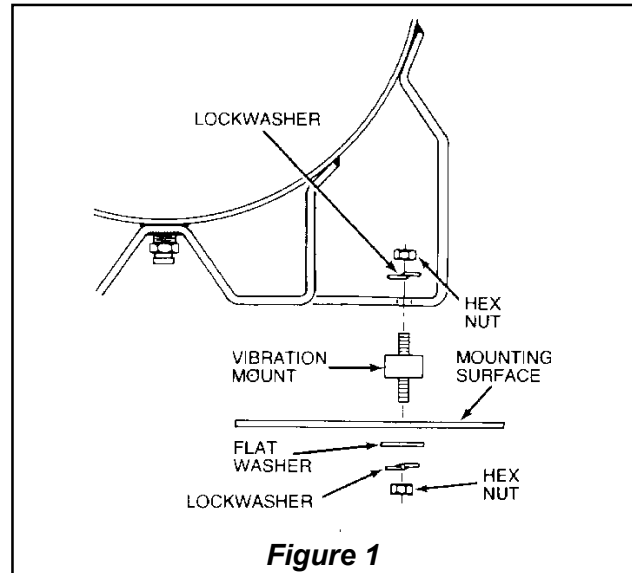

Figure 1
2. Insert the vibration mounts in the mounting holes. Place a flat washer under the mounting surface and secure each mount with a lock washer and nut. See Figure 1.